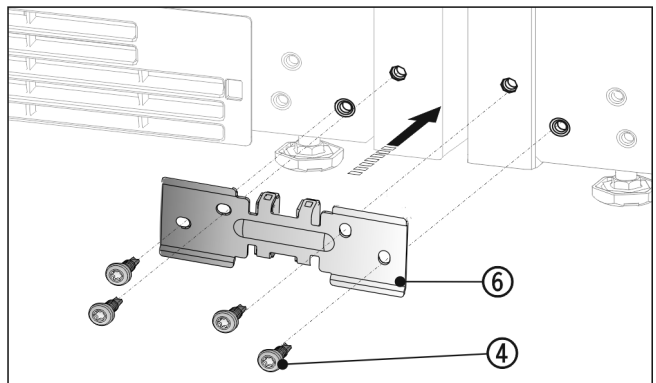

Fig. 17
- ▶ Slide the bracket Fig. 17 (6) on with the spacer between the appliances and screw in loosely with the 4 screws Fig. 17 (4).